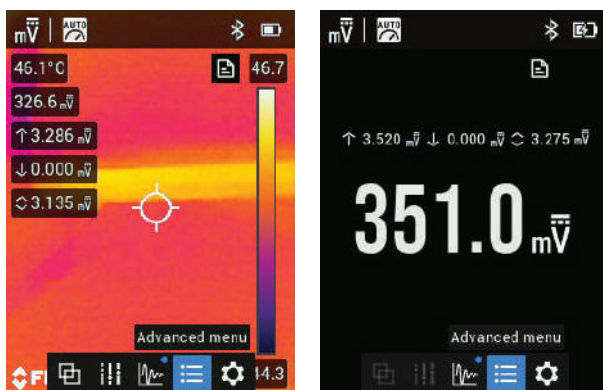

Figure 10.16 Advanced Menu accessible from thermal image mode (left) and multimeter mode (right).
2. The maximum, minimum, and average reading memories will appear on the left side of the thermal image, or above the main reading in the multi-meter mode, next to their associated icon $\uparrow$ $\downarrow$ $\diamond$ (left to right, MAX, MIN, AVG), as shown in Figure 10.16.